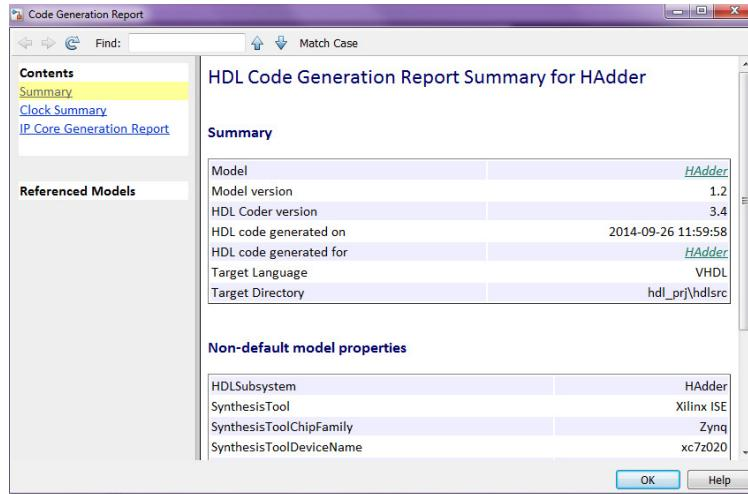

Figure 38: 3.2 Code generation report
3. HDL Code generation: There are two parts for HDL Code generation: part 3.1 (Set Code Generation) and part 3.2 (Generate RTL Code and IP core). Run these parts and at the end of part 3.2, you will see the HTML custom report Fig. 38 displayed. Now the IP core files are in the ipcore folder within your project folder. The HTML custom IP core report is generated together with the custom IP core. The report describes the behavior and contents of the generated custom IP core.